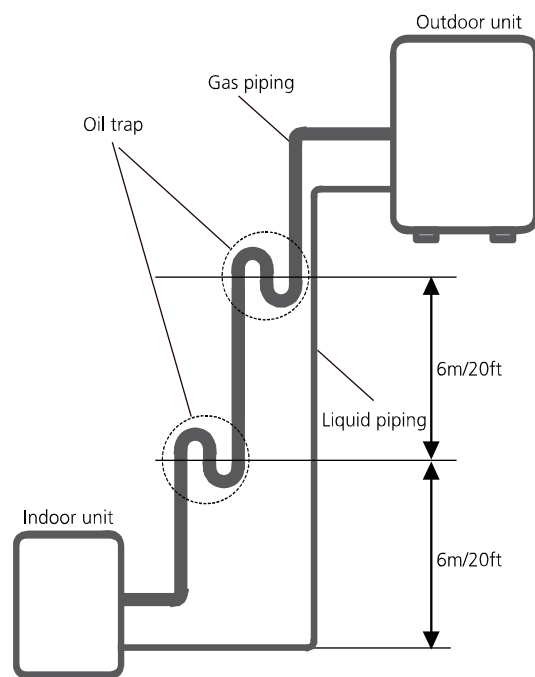

Fig. 8.2
-It is recommended that vertical suction risers not be upsized. Proper oil return to the compressor should be maintained with suction gas velocity. If velocities drop below 7.62m/s(1500fpm (feet per minute)), oil return will be decreased. An oil trap should be installed every 6m(20ft) of vertical suction line riser. (See Fig. 8.2)